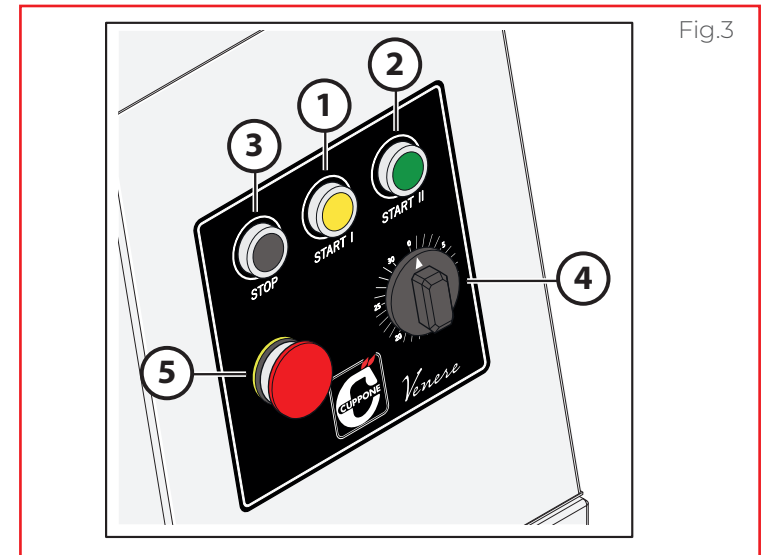

Fig.3
► **Fig.3** The main parts of the machine are:
► **Fig.3 Control panel**
- check that all safety devices (emergency mushroom ⑤ ► Fig.3) are working perfectly; its functionality is checked by pressing it and making sure that the appliance immediately stops working. In the event of anomalies or inefficiencies, immediately notify the manager in charge;
If pressed, the emergency mushroom interrupts the appliance operation. To unlock it and restart the normal working activity, rotate it clockwise. The mushroom must be used in a real emergency; to stop the appliance normally, use the STOP button ③ ► Fig.3